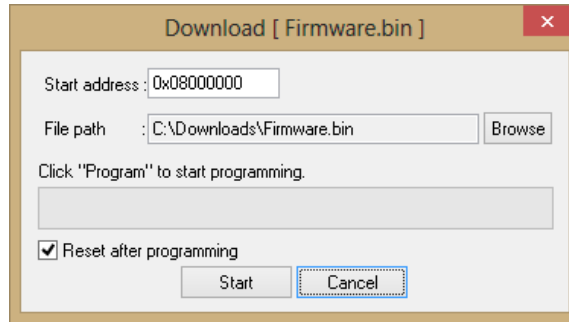

Figure 13: Start flashing the new firmware
3. Start flashing (see fig. 13): Check if the Start address is 0x08000000 and click on *Start*. The data is now programmed into the flash. It takes several seconds.